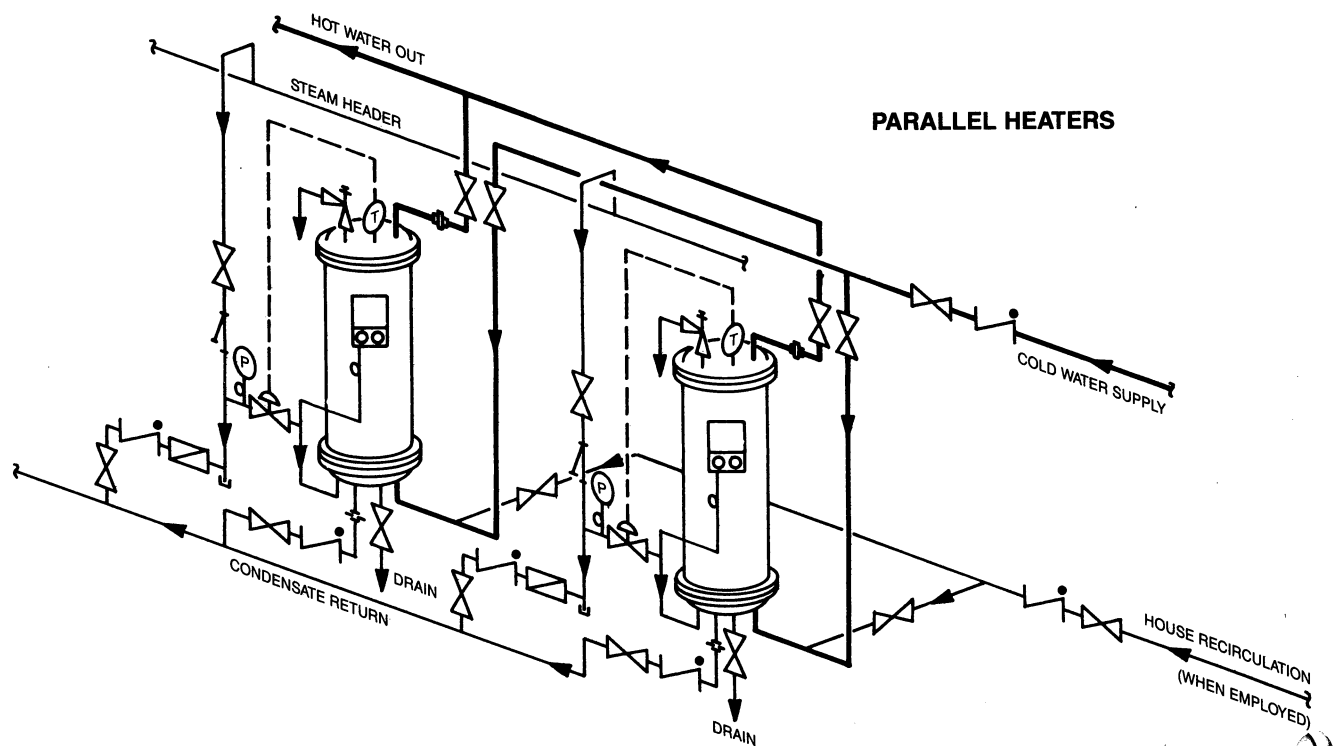

Figure HE-107-3 -- Piping Connections for Parallel Heaters
- Parallel Heaters -- Figure HE-107-3